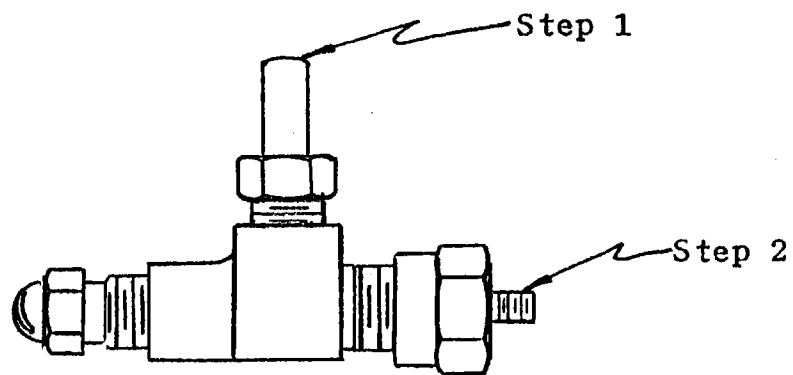

Figure 2
2. Suggested bleeder valve for use with bench bleeder: See Figure 2.
- 3.4.1 Remove the brake bleeder screw (opposite the adjuster cap) and install the bleeder valve (shown in Figure 2) into this hole.
The following procedure is prescribed, assuming that the brake adjuster has been reworked as described in Service Bulletin 100. The "bleeding device" may be either a bleeder hose with the end wired solidly to the fitting, or a unit similar to that of Figure 2. To close off the hose while in use, pinch it together.